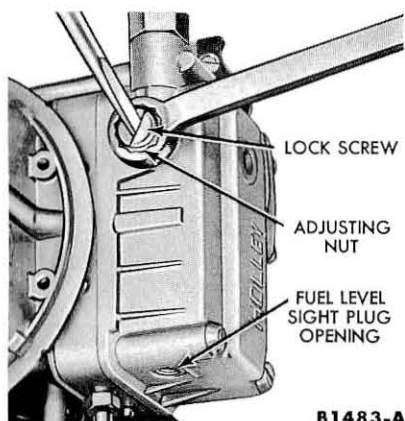

FIG. 10—Dual or 4-Barrel Fuel Level Adjustment
1. With the engine stopped, loosen the lock screw on top of the fuel bowl just enough to allow rotation of the adjusting nut underneath (Fig. 10). **Do not loosen the lock screw or attempt to adjust the fuel level with the engine running because the pressure in the line will spray fuel out and present a fire hazard.**